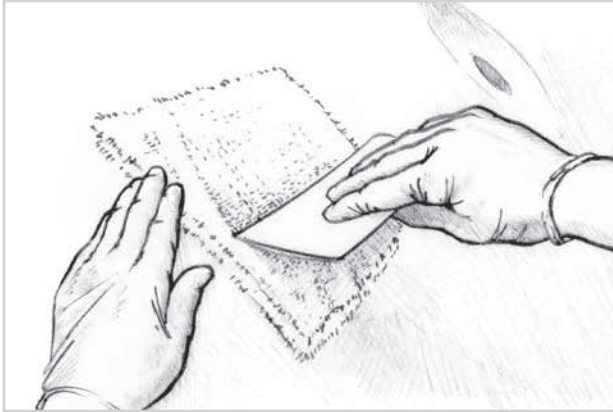

Figure 4-3 Smooth the wet-out fabric against the waxed panel to laminate a backer that matches the panel contour.
4. Place the wet-out fabric against the waxed panel (Figure 4-3). Use a spreader to smooth the cloth against the panel and remove excess epoxy. The paste wax will prevent the cloth from becoming bonded to the panel. If the hole is in a flat or moderately curved area of the panel, the backer can be laminated on the flat table. The cured backer should be flexible enough to conform to a moderately curved panel. Allow the backer to cure thoroughly.